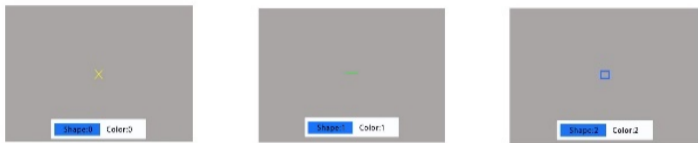

Fig. 18
- **Reference Point Shape and Color:** The ballistic calculator allows customization of point shape and color. You can choose from three shape options and select yellow, green, or blue as the color for the aiming point as shown in Fig. 18.